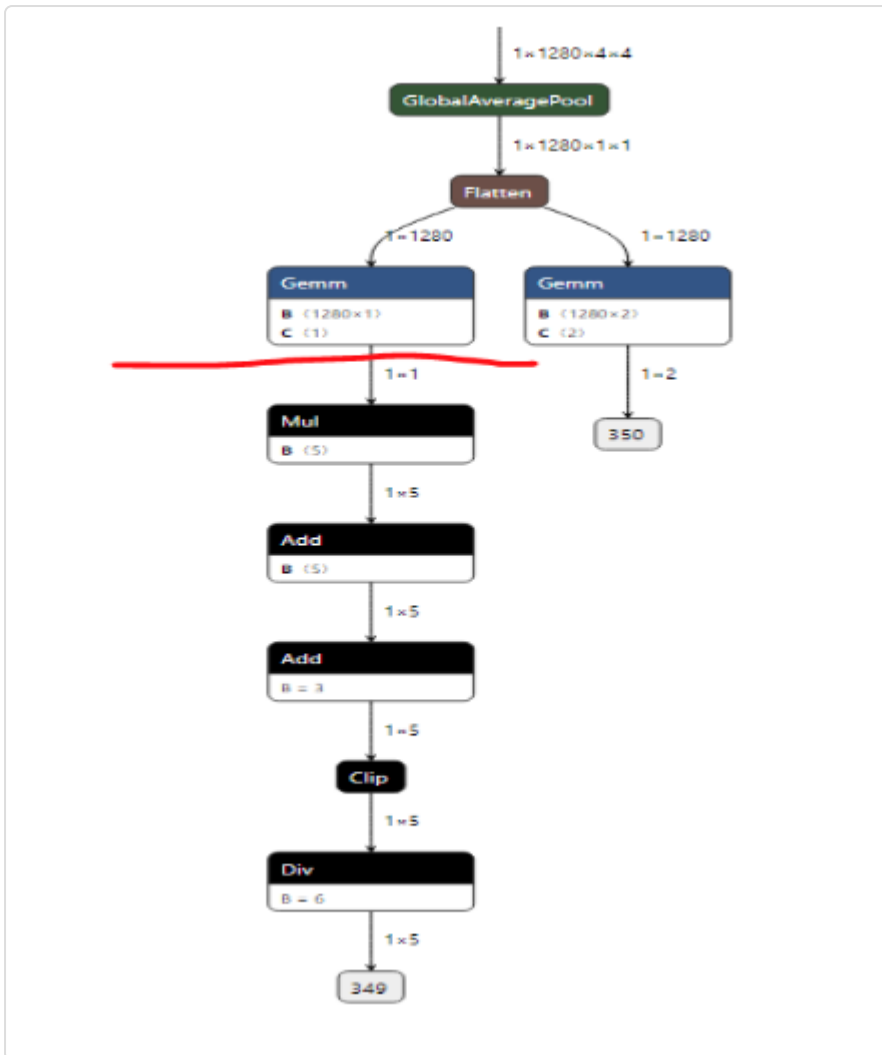

Figure 4. Pre-edited model
Step 1: Start from each output node of the model, we should trace back to an operator that has significant compute workload, such as `GlobalAveragePool`, `Gemm` (fully connect), or `Conv`. Then, we could cut to the output of that OP. For example, there is a model looks Figure 4, and it has two output nodes: `350` and `349`. From output node `349`, we can trace back to the `Gemm` above the red line because the `Div`, `Clip`, `Add` and `Mul` only have 1x5 dimension, and these OPs are not very heavy computation. Since `Mul` and `Div` are not support in NPU, so it is recommend to cut the rest of the OPs and let the model finish at the output of the `Gemm` (red line). For the other output node `350`, since it is the output of a `Gemm`, there is no need to do any more edition.